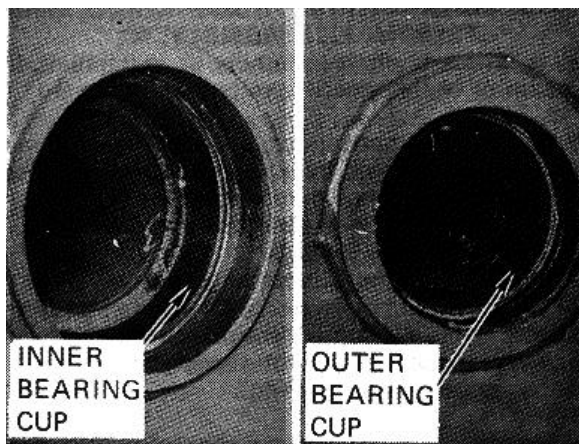

FIGURE 9-102.
a. Lubricate all bearing cup bores (four), then install bearing cups (one inner and outer cup per drum) into the drums. Be sure cups are firmly seated (see figure 9-102).